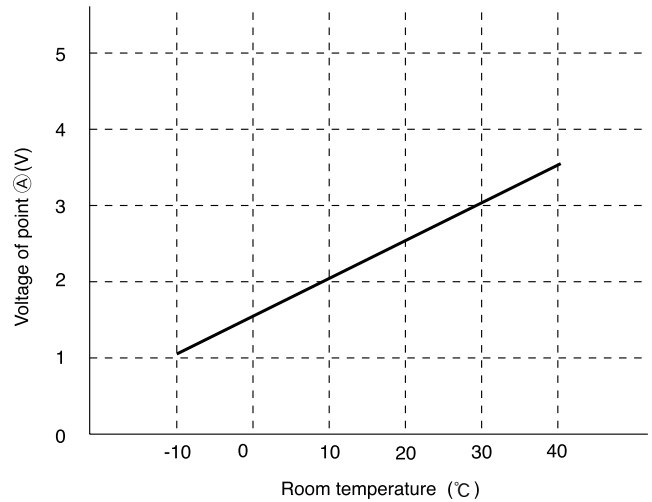

Fig. 4-2
- (1) Preheating
- (2) Low-temperature defrosts at cooling•dehumidification operation time.
- (3) Not working of reversing valve or detection of opening of heat exchange thermistor is controlled.
According to heat exchange temperature, the voltage of point ① becomes as it is shown in Fig. 4-2.